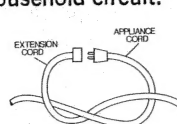
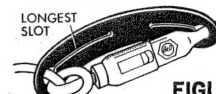

FIGURE 13
FIGURE 14
To prevent disconnection of mower cord from extension cord when mowing, (1) make a knot as shown in Figure 13, or (2) use one of the Cord Connectors shown in Figure 14.
- (1) Make a knot as shown in Figure 13, or
- (2) Use one of the plug-receptacle Cord Connectors shown in Figure 14.